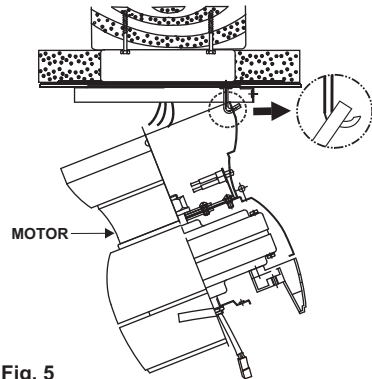

Fig. 5
**Step 2.** Lift fan into position by hanging the motor assembly onto the hook from the ceiling mounting bracket allowing it to hang freely (Fig. 5).